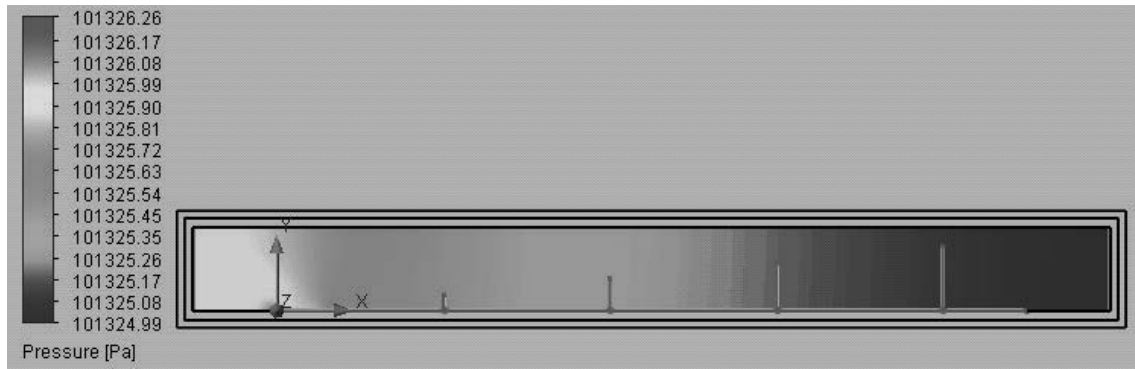

Figure 2.23a) Pressure distribution along the flat plate.
23. Right click on  Cut Plots in the  **Flow Simulation analysis tree** under **Results** and select **Insert....** Select the **Front Plane** from the  **FeatureManager design tree**. Slide the **Number of Levels** slide bar to 255. Select **Pressure** from the **Parameter** drop down menu. Click **OK** to exit the **Cut Plot** window. Figure 2.23a) shows the high pressure region close to the leading edge of the flat plate. Rename the cut plot to **Pressure**. You can get more lighting on the cut plot by selecting **Tools>>Flow Simulation>>Results>>Display>>Lighting** from the **SOLIDWORKS** menu. Right click on the **Pressure Cut Plot** in the **Flow Simulation analysis tree** and select **Hide**. Repeat this step but instead choose **Velocity (X)** from the **Parameter** drop down menu. Rename the second cut plot to **Velocity (X)**. Figures 2.23b) and 2.23c) are showing the velocity boundary layer close to the wall.